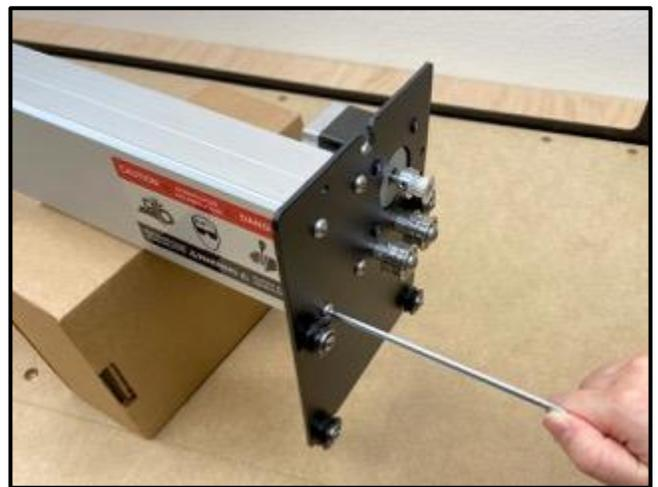

Figure 3-20
2. Use the 4mm hex key and four (4) M6x12mm button head cap screws to attach the Y2-carriage to the right end of the X-rail. See **Figure 3-20**.
When properly attached, the motor body will be to the inside and behind the X-rail. The V-wheels, idlers, and motor pulley will be facing out as shown in **Figure 3-20**.